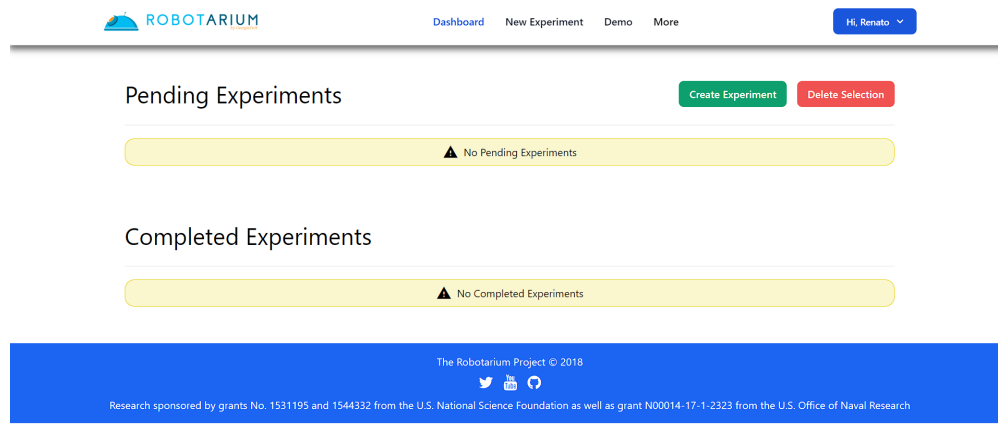

Figure 4: Dashboard
1. When you navigate to the dashboard, you will see the “Pending Experiments” and “Completed Experiments” tabs. If you have not run anything, it will look like Figure 4